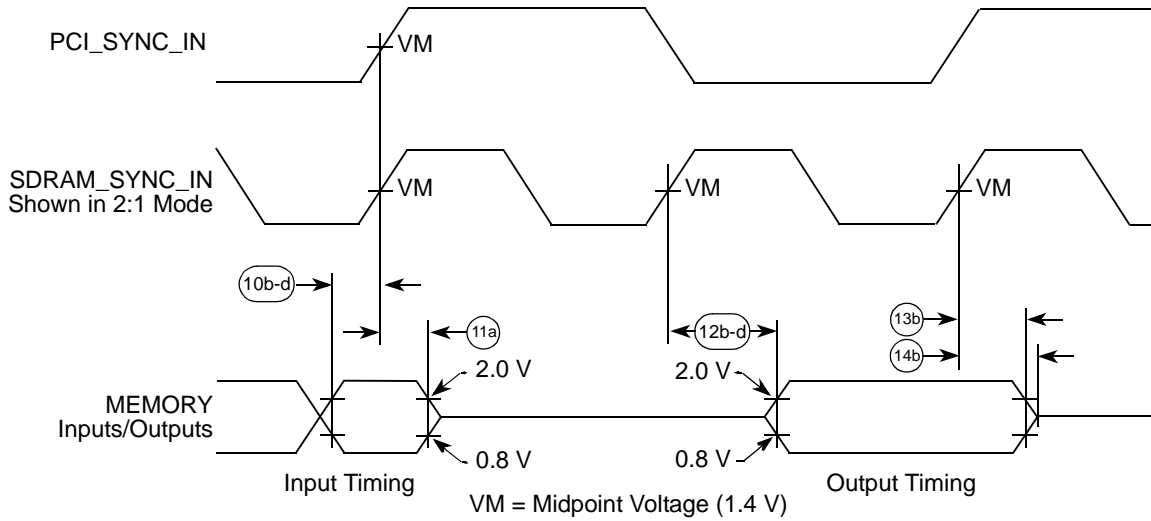
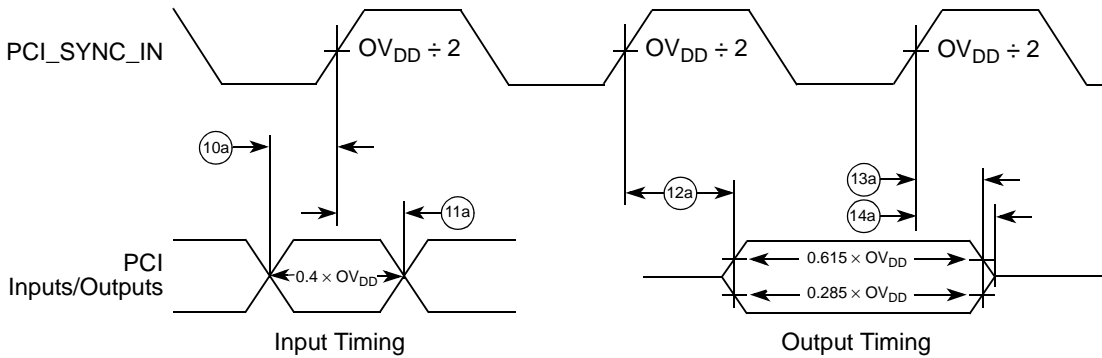
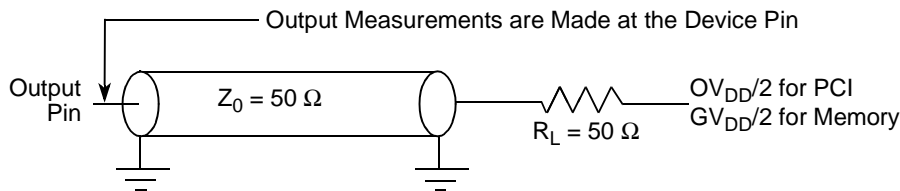

Figure 8. Input-Output Timing Diagram Referenced to SDRAM_SYNC_IN
Figure 9. Input-Output Timing Diagram Referenced to PCI_SYNC_IN
Figure 11. AC Test Load for the MPC8240
Table 8 provides the input AC timing specifications. See Figure 8 and Figure 9 for the input-output timing diagrams referenced to SDRAM_SYNC_IN and PCI_SYNC_IN, respectively.
- All memory and related interface input signal specifications are measured from the TTL level (0.8 or 2.0 V) of the signal in question to the $V_M = 1.4\text{ V}$ of the rising edge of the memory bus clock, SDRAM_SYNC_IN. SDRAM_SYNC_IN is the same as PCI_SYNC_IN in 1:1 mode, but is twice the frequency in 2:1 mode (processor/memory bus clock rising edges occur on every rising and falling edge of PCI_SYNC_IN). See Figure 8.
- All PCI signals are measured from $OV_{DD}/2$ of the rising edge of PCI_SYNC_IN to $0.4 \times OV_{DD}$ of the signal in question for 3.3-V PCI signaling levels. See Figure 9.
Table 9 provides the processor bus AC timing specifications for the MPC8240. See Figure 8 and Figure 9 for the input-output timing diagrams referenced to SDRAM_SYNC_IN and PCI_SYNC_IN, respectively. Figure 11 shows the AC test load for the MPC8240.
- All memory and related interface output signal specifications are specified from the $V_M = 1.4 \text{ V}$ of the rising edge of the memory bus clock, SDRAM_SYNC_IN to the TTL level (0.8 or 2.0 V) of the signal in question. SDRAM_SYNC_IN is the same as PCI_SYNC_IN in 1:1 mode, but is twice the frequency in 2:1 mode (processor/memory bus clock rising edges occur on every rising and falling edge of PCI_SYNC_IN). See Figure 8.
- All PCI signals are measured from $OV_{DD}/2$ of the rising edge of PCI_SYNC_IN to $0.285 \times OV_{DD}$ or $0.615 \times OV_{DD}$ of the signal in question for 3.3-V PCI signaling levels. See Figure 9.
- All output timings assume a purely resistive 50-Ω load (see Figure 11). Output timings are measured at the pin; time-of-flight delays must be added for trace lengths, vias, and connectors in the system.
- PCI hold times can be varied; see Section 1.4.2.4.1, "PCI Signal Output Hold Timing," for information on programmable PCI output hold times. The values shown for item 13a are for PCI compliance.